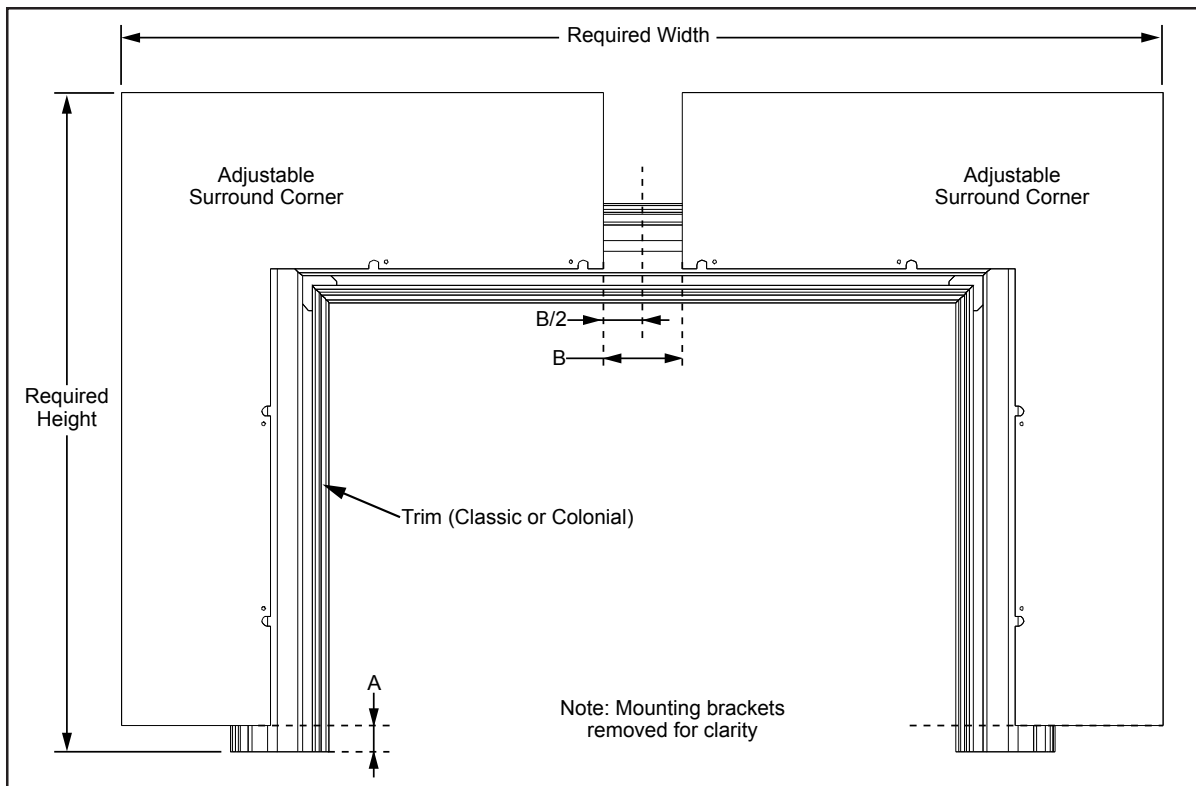

Figure 63: Marking offsets on Trim, Relates to Table 7.
9. Only if installing Adjustable Surround with dimensions within the ranges in Table 1 steps 9-12: On the back side of the trim, mark out the offset distances required for the adjustable surround corners to create the required size. Marking the trim will help you install the surround corners so they will be even and square. Refer to Figure 63 and Table 7.
c) Mark the height difference on the left and right trim sides. Using the example, they would be marked 1" (26mm) from the bottom of each side, see dimension "A" in Figure 63.
d) Mark the center of the top trim, 15⅝" (397mm) from either side. From the center line mark half the width distance on either side. Using the example of 3" (76mm), there would be marks 1½" (38mm) on either side of the center line, see dimension "B/2" in Figure 63.